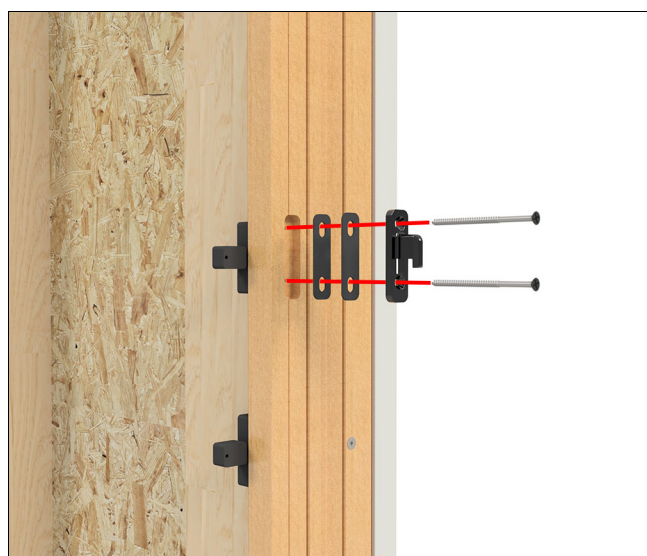

Figure 50
3. Keeper Adjustment: With the panel properly aligned, check to make sure it locks correctly. There are two plastic shims behind the keepers and panel guides that will allow some adjustment to move the hardware in and subsequently make the panel close tighter when locked. See Figure 50.